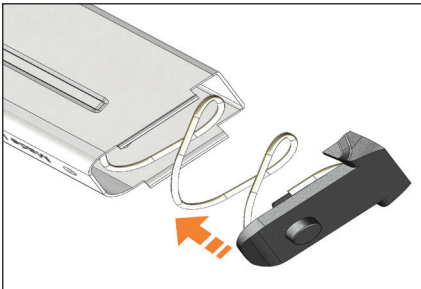

Figure 35
2. Insert the follower and magazine spring into the magazine housing as depicted in Figure 35.